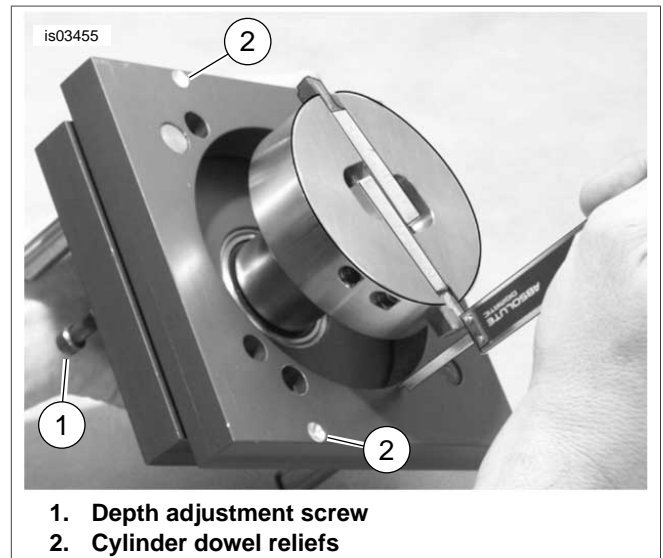
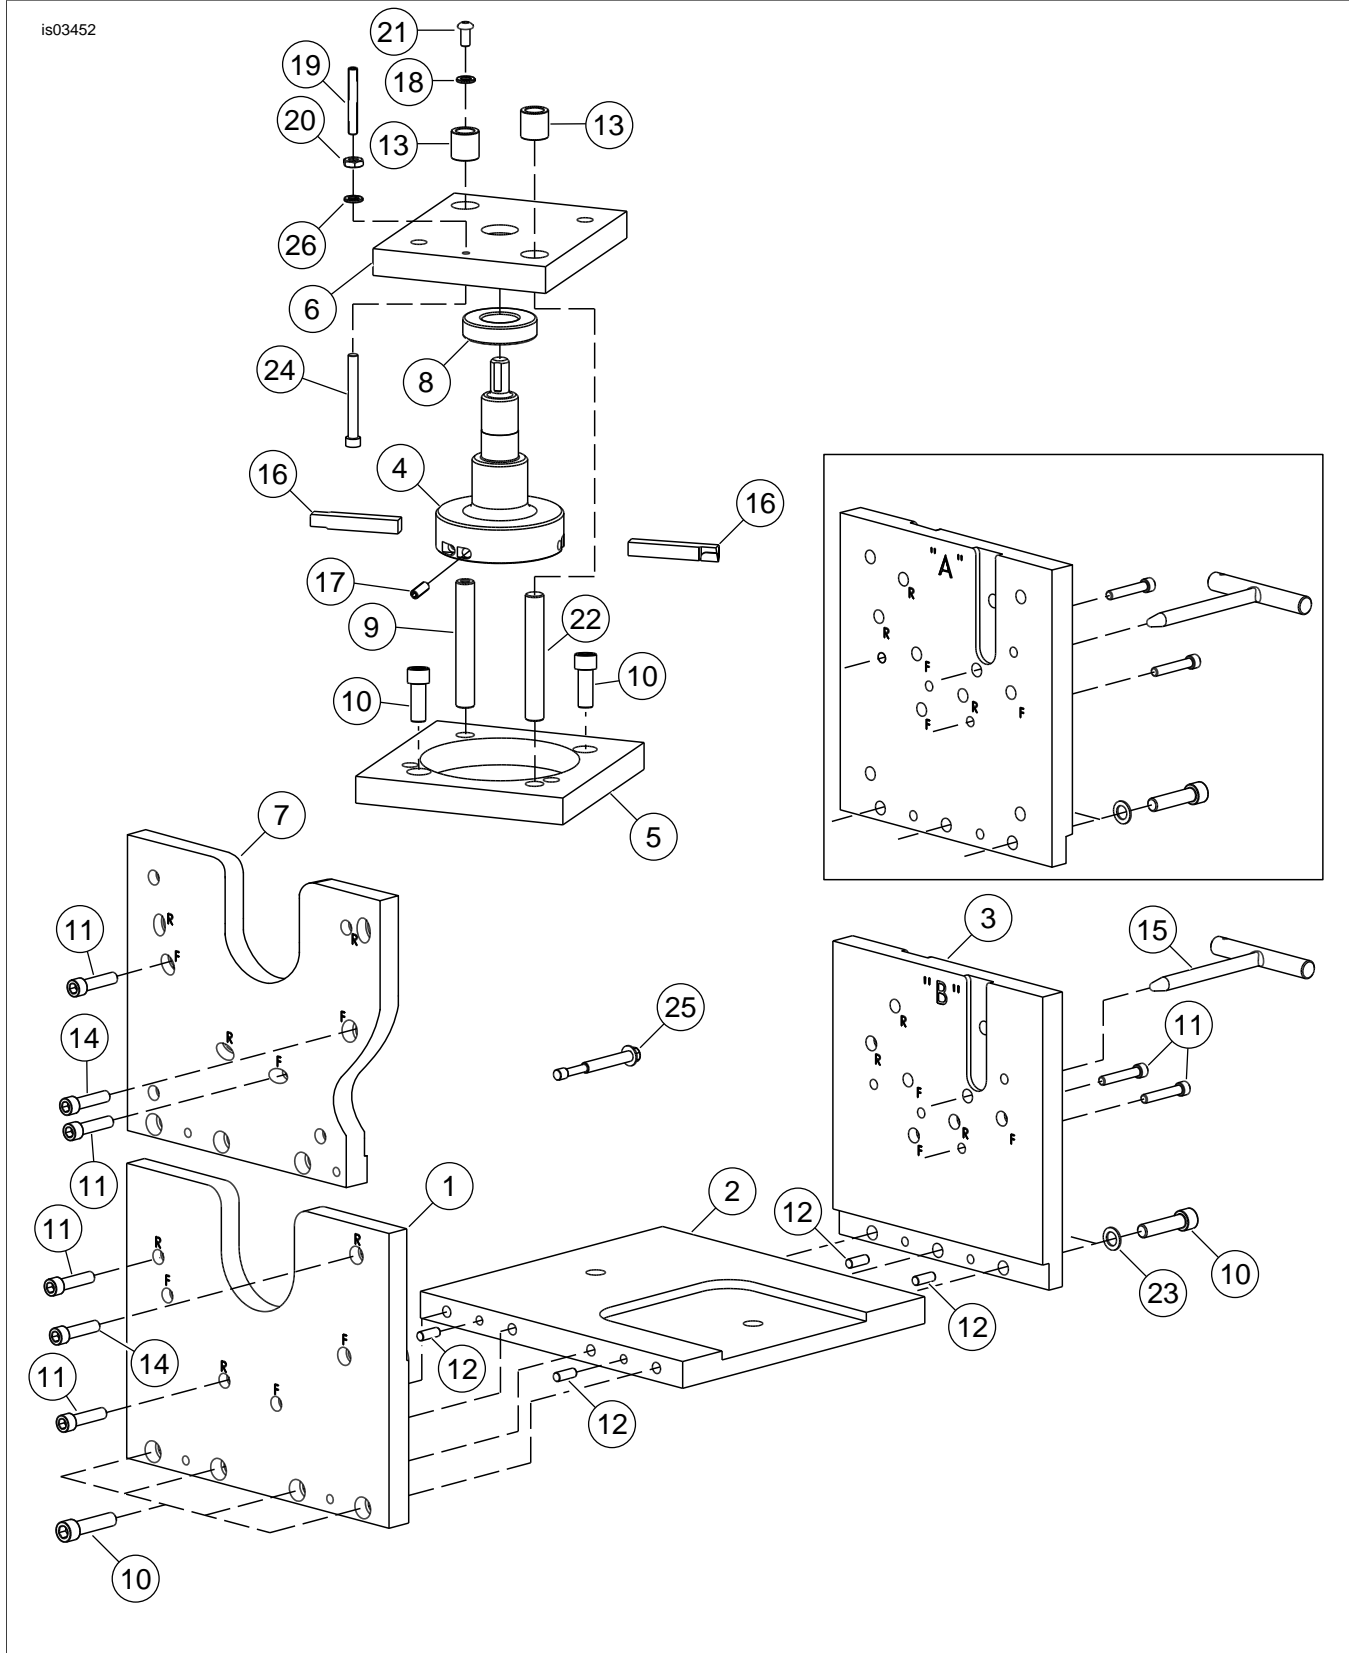

Figure 5. Boring Head Assembly
Figure 10. Service Parts for Twin Cam Crankcase Boring Tool
- b. Using a 1/8 inch hex key wrench and a 7/16 inch wrench, adjust the stop depth adjustment screw (19) on the boring assembly.
- c. Measuring from the finish cut tool bit to the bottom of the locating plate as shown in Figure 5, adjust the stop depth adjustment screw so that the finish tool bit will cut to the desired depth.
- d. Secure stop depth adjustment screw (19) with nut (20).
If the tool bit is set for a bore larger than 4.45 in. (113.03 mm), the tool bit will contact and cause damage to the inner diameter of the locating plate (Item 5, Figure 10) and/or tool bit (Item 16, Figure 10).
- b. Set the finish cut (5) tool bit depth using the set screw (3). Use an appropriate measuring tool to ensure accurate measurements.
- c. While ensuring that the tool bit is pressed tight to the depth set screw (3), tighten the locking set screw (1), then locking set screw (2). Tighten locking set screws to 90 **in-lbs** (10 Nm).
- b. See Figure 10. Remove the stop depth adjustment screw (19), nut (20) and washer (26).
- c. Install washer (26) and nut (20) onto the alternate stop depth adjustment screw (24), then install the screw so the head of the screw is between the plates of the boring head assembly.
- d. Using a 1/8 inch hex key wrench and a 7/16 inch wrench, adjust the stop depth adjustment screw (24) on the boring assembly top plate down to the locating plate.
- e. Measuring from the finish cut tool bit to the bottom of the locating plate as shown in Figure 5, adjust the stop depth adjustment screw so that the finish tool bit will cut to the desired depth.
- f. Secure stop depth adjustment screw (24) with nut (20).
4. See Figure 10. Lubricate two screws (10) with SAE 20w50 Harley-Davidson motorcycle oil. Install the boring head assembly onto the engine crankcase with two lubricated socket head cap screws.
12. See Figure 10. Remove two 1/4-20 inch socket head cap screws (11), T-pin (15) and three 5/16-18 inch socket head cap screws (14) (or two 1/4-20 inch screws (11) and one 5/16 inch screw (14) depending on application), then rotate the engine crankcase so that the opposite engine crankcase spigot bore is straight up.